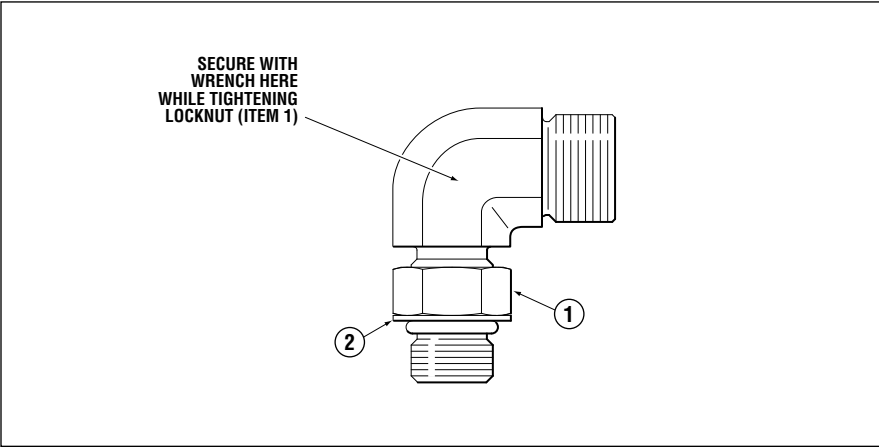

Figure 20.
- 1 Back off lock nut (item 1, Figure 20), counter-clockwise, until it stops.
- 2 Thread fitting into cylinder body until fitting washer (item 2, Figure 20) contacts the face of the cylinder port. Tighten hand tight, DO NOT TORQUE FITTING INTO GLAND.
- 4 While holding fitting with a wrench, tighten the locknut (item 1, Figure 20) and torque to 40–43ft-lb.
Failure to properly tighten the locknut (item 1, Figure 20) may lead to loss of steering control. Loss of steering control may result in unpredictable boat behavior, collision with an obstacle and/or ejection from vessel, leading to property damage, personal injury and/or death.